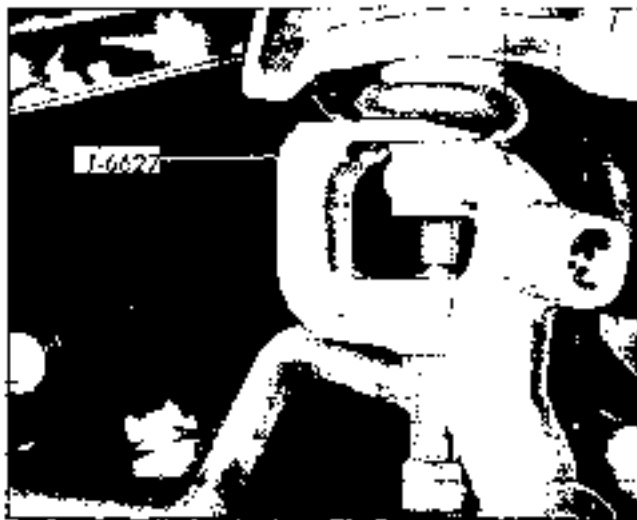

Fig. 3-6 Removing Ball Joint Stud with J-6627
8. Disconnect lower ball stud from steering knuckle with J 6627 (Fig. 3-6)
7. Disconnect lower ball stud from steering knuckle, using tool J 6827 (Fig. 3-6) and position backing plate and steering knuckle out of the way.
2. Remove upper ball stud from steering knuckle with J 6627 (Fig. 3-6).